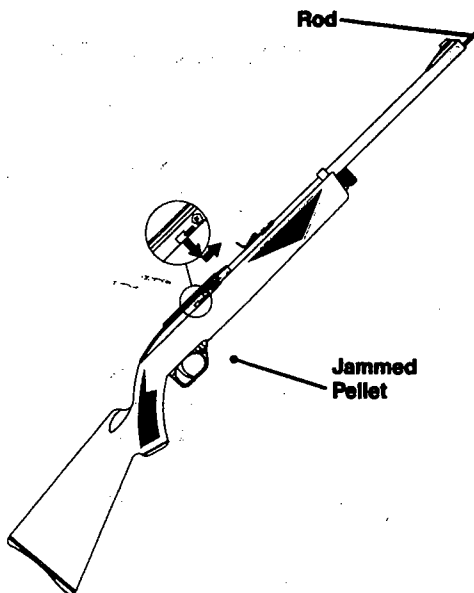

Fig. 10
- Press downward and forward on the barrel latch tabs. (Fig. 10)
- Insert a rod or straightened clothes hanger into the barrel and carefully push the jammed pellet into and out of the pellet magazine area of the rifle. Don't try to reuse any jammed pellets. (Fig. 10)